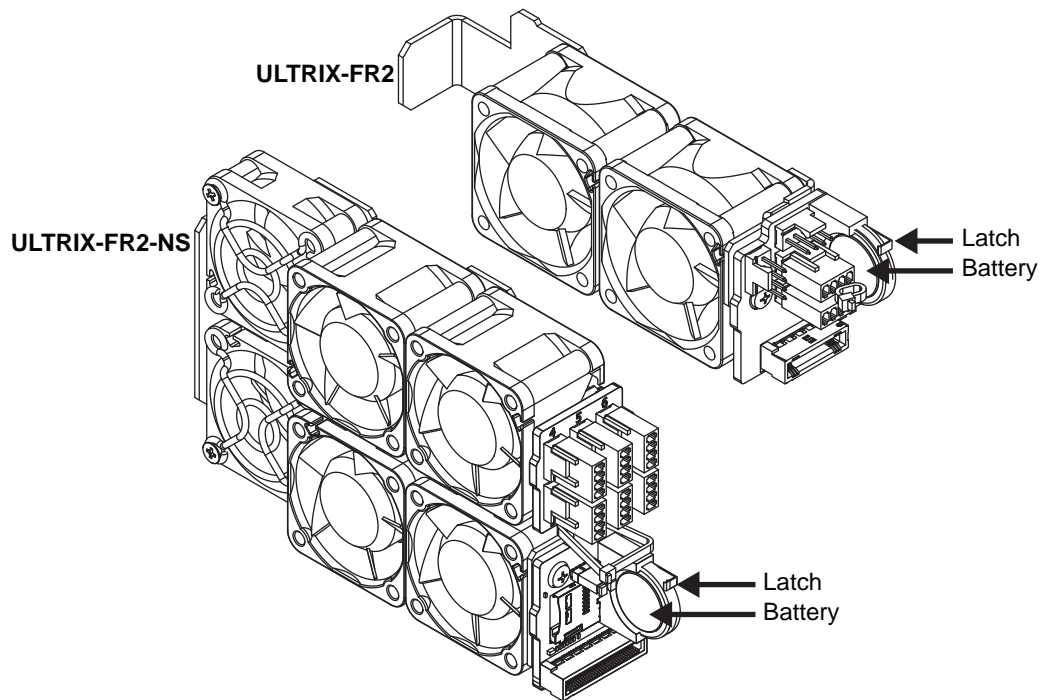

Figure 26.9 Battery Location inside the Cooling Fan Module — ULTRIX-FR2 and ULTRIX-FR2-NS
1. Locate and note the orientation of the failed battery inside the Cooling Fan Module. (Figure 26.9)